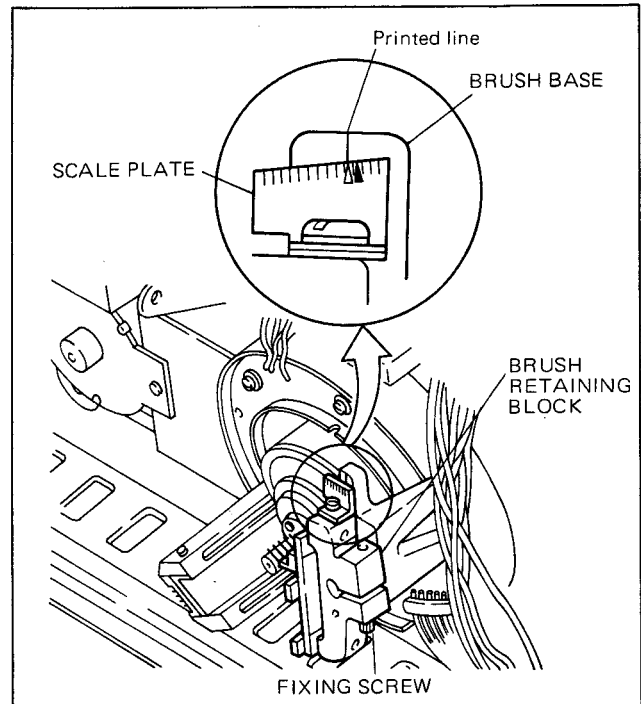
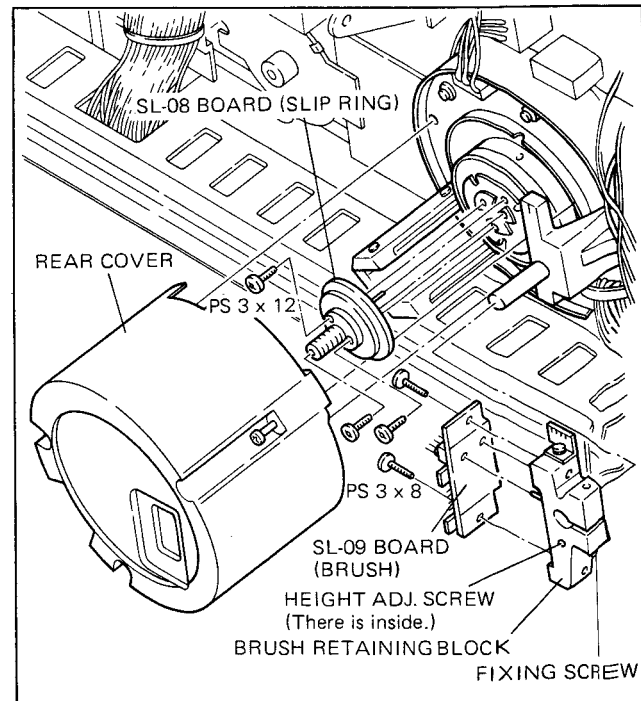

Fig. 3-13. Brush Pressure Adjustment
Fig. 3-14. Replacement of Slip Ring and Brush
8. Turn the height adjustment screw shown in Fig. 3-14 so that the each brush comes to the center of each slip ring groove. And adjust the brush mounting block so that all brushes up to the last one contact the center of the slip ring grooves. At this time, Δ shows the point where the line marked on the brush base intersects the scale plate, move the brush retaining block to the position \blacktriangle next to Δ , and then tighten the screw.
7. Turn the height adjustment screw shown in Fig. 3-14 so that the each brush comes to the center of the each slip ring groove. And adjust the brush mounting block so that all brushes up to the last one contact the center of the slip ring grooves. At this time, Δ show the point where the line marked on the brush base intersects the scale shown in Fig 3-13, move the brush mounting block to the position \blacktriangle next to Δ , and then tighten the screw.